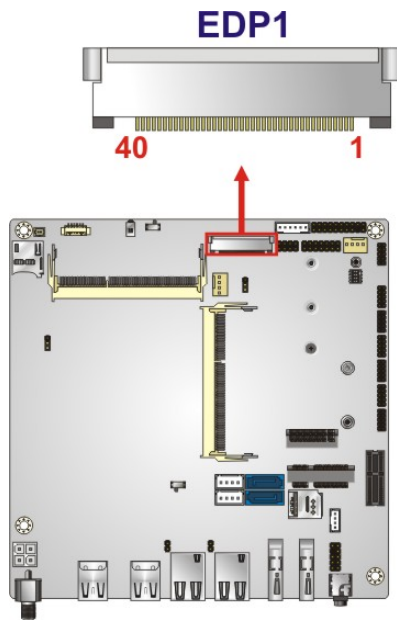

Figure 3-6: eDP Connector Location
- CN Location:** See **Figure 3-6**